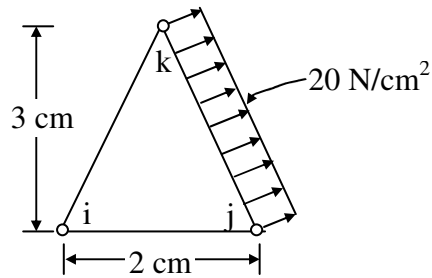

Fig.5
7. a) Determine the element equations for the plane stress element shown in Fig.5. The element has a 20 N/cm^2 load acting perpendicular to side jk and is subjected to a 15°C temperature rise.